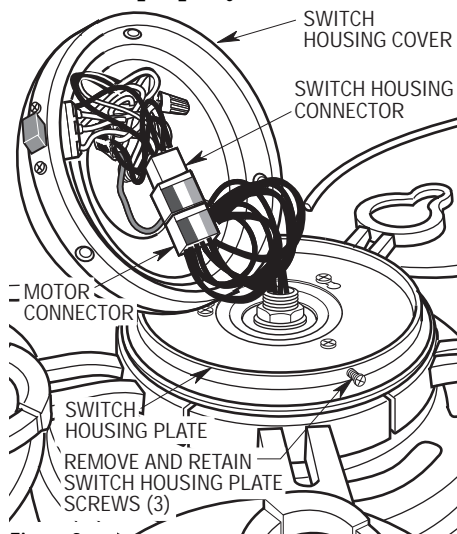

Figure 9
- 19. Remove the three switch housing plate screws and retain for future installation (Figure 9).
- 20. Engage the connector of the switch housing assembly with the motor connector (Figure 9). The two connectors are keyed and color-coded and must be mated correctly (color-to-color) before they can be engaged. Make sure the connector latch closes properly.